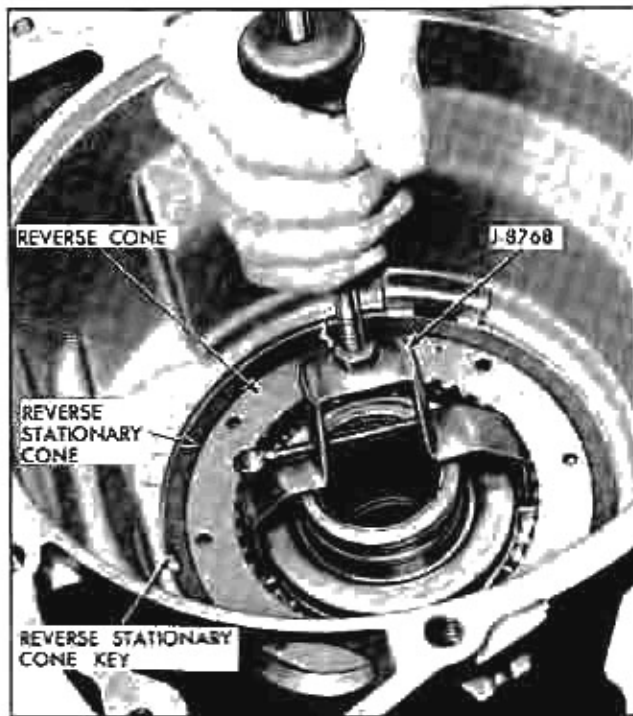

Fig. 62 Removing Reverse Cone
2. Using reverse cone puller J-8768, remove the reverse cone and reverse stationary cone. Position tool under lugs of reverse cone and pull upward (Fig. 62).